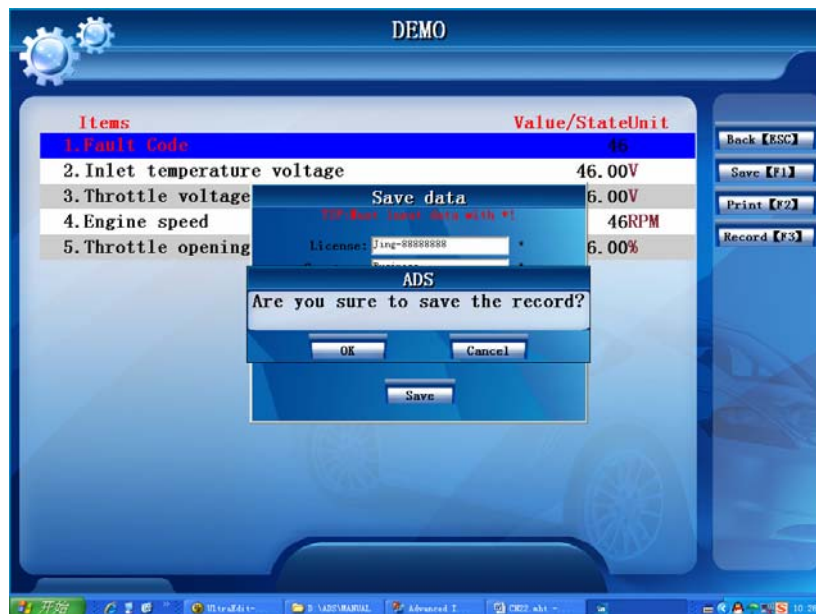

Figure-28
28. Then it pops up a message box to remind you whether to save the records, as shown in figure-28.